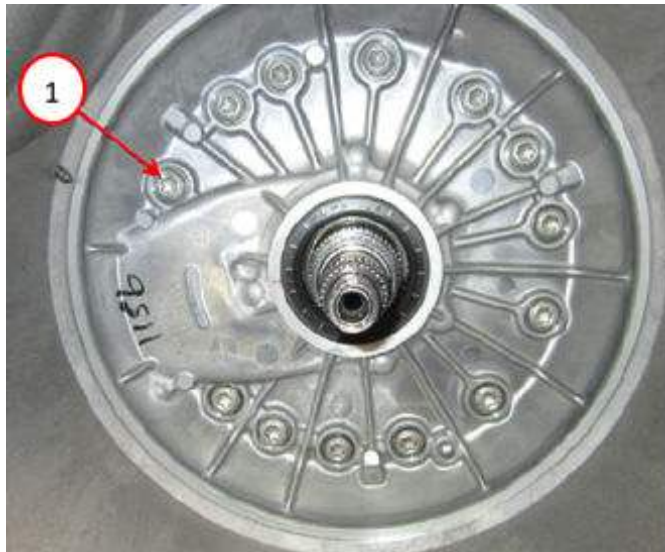

Fig. 38
60. Install NEW transmission oil pump assembly to case bolts Fig. 38.